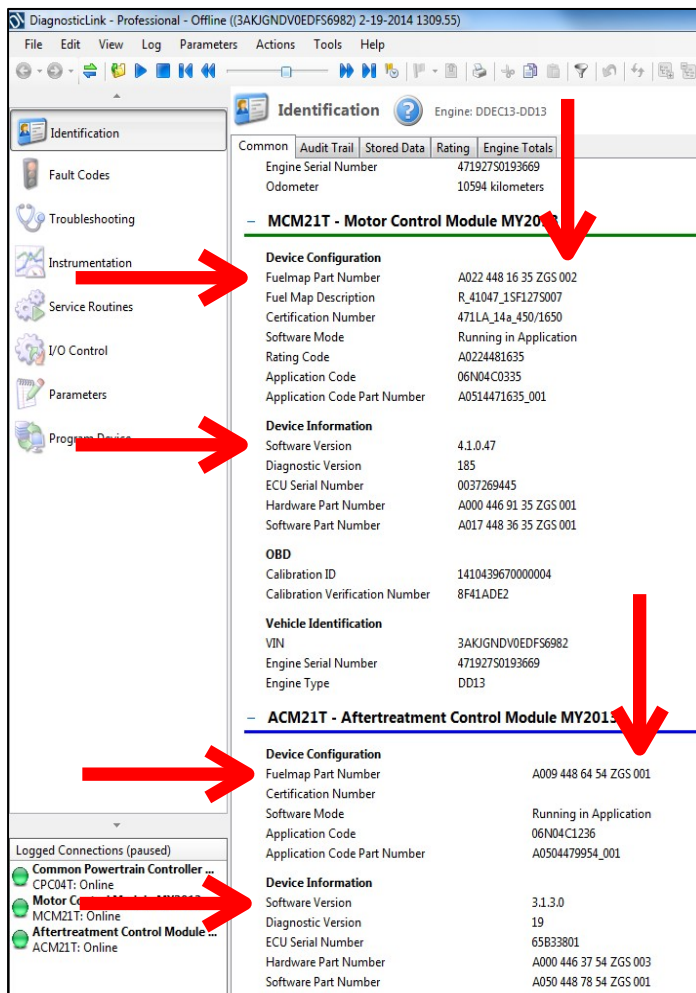

Figure 1 – DiagnosticLink® Identification Screen
5. On the Identification screen, check the current MCM, ACM, CPC, and if applicable the TCM, software and fuel map level. Listed below are the **MINIMUM** levels required. See Figure 1 for an example of the Identification screen for the MCM and ACM.
6. Is the software level for the MCM, ACM, CPC, and if applicable the TCM, less than, equal to, or higher than the minimum software levels listed in step 5? All modules must meet the **MINIMUM** requirements. For example, in Figure 1, MCM software 4.1.0.47 and ACM software 3.1.3.0 are both less than the minimum levels of 4.7.0.0 and 5.57.0.0, and thus would require programming, regardless of fuel map ZGS version.